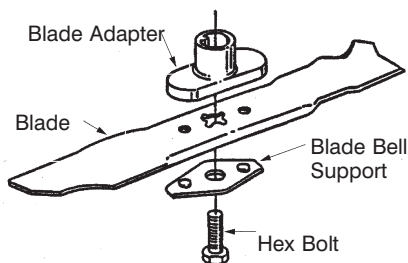

Figure 6
- Remove the bolt and blade support which holds the blade and adapter to the engine crankshaft. Remove the blade and adapter from the crankshaft. See Figure 6.